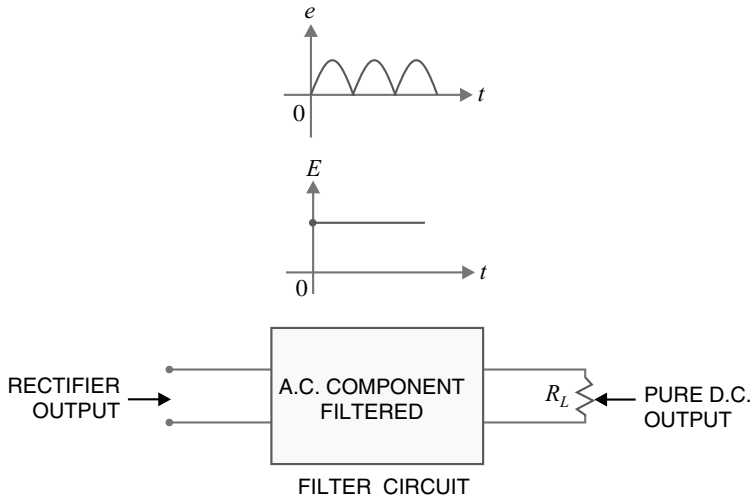

Fig. 4.49
Fig. 4.49. A filter circuit is generally a combination of inductors (L) and capacitors (C). The filtering action of L and C depends upon the basic electrical principles. A capacitor passes a.c. readily but does not *pass d.c. at all. On the other hand, an inductor †opposes a.c. but allows d.c. to pass through it. It then becomes clear that suitable network of L and C can effectively remove the a.c. component, allowing the d.c. component to reach the load.